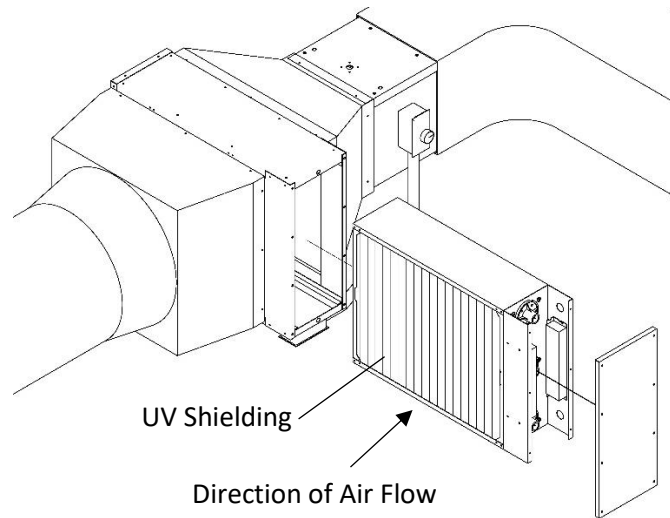

Figure 9
4.) Remove catalyst panel. See Figure 9.
12.) Place catalyst panel back into DT-FP. Be sure that arrows on panel point in the direction of air flow. See Figure 9.
10.) Place catalyst panel back into DT-FP. Be sure that arrows on panel point in the direction of air flow. See Figure 9.